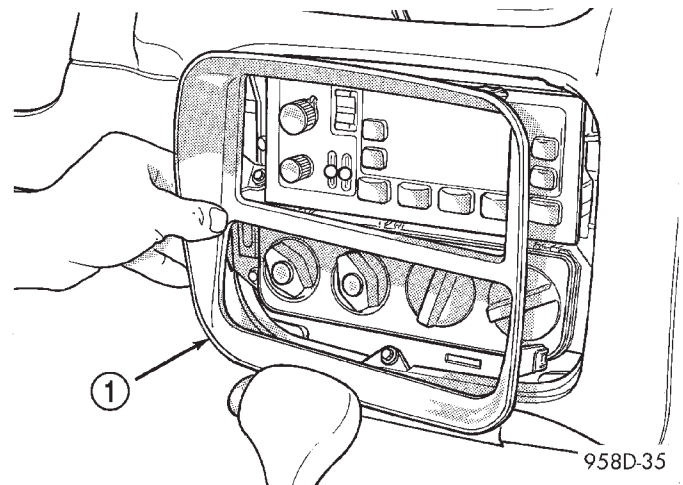

Fig. 28 Installing Center Bezel
(28) Install center bezel surrounding radio and climate control (Fig. 28).